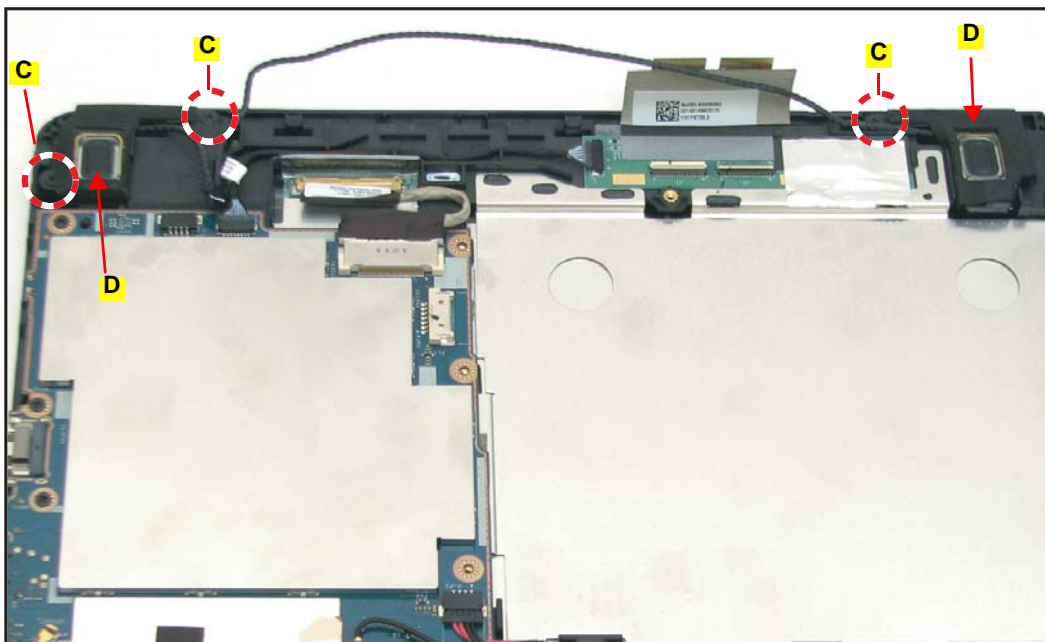

Figure 5-43. Removing the Speakers
6. Remove the speakers (D) from the bezel. (Figure 5-43)